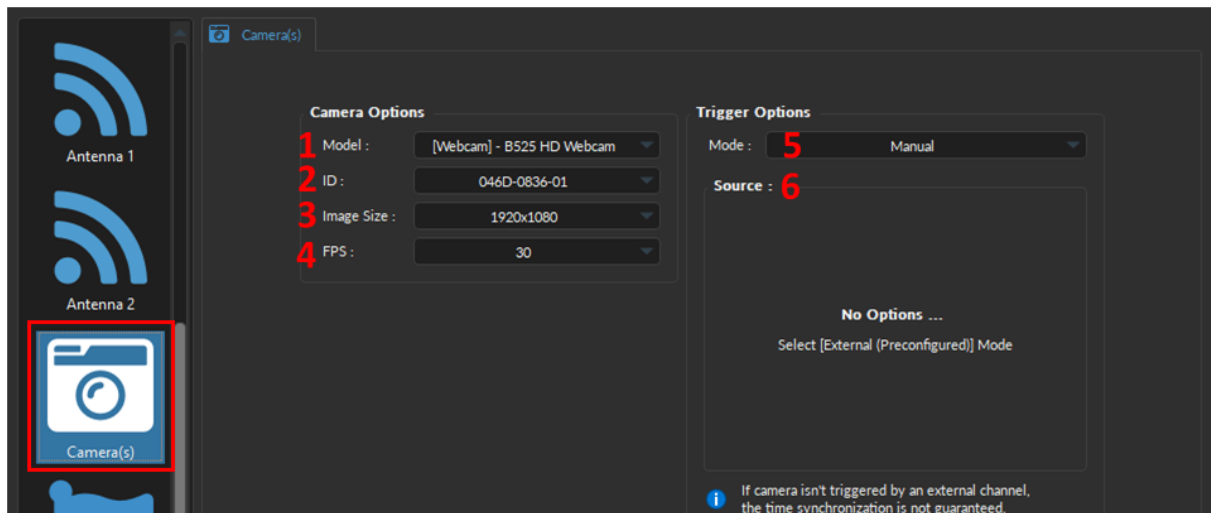
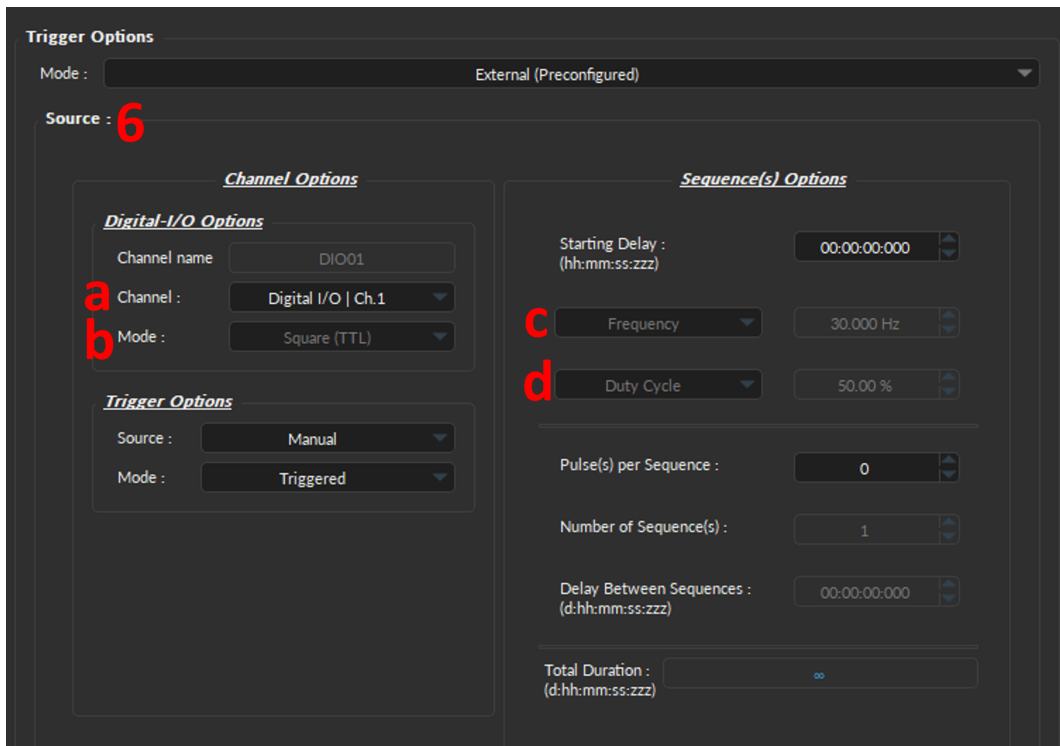

Figure 9.43: Channel(s) configuration window, Camera
Figure 9.45: Channel(s) configuration window, Camera - External (Preconfigured)
1. The **Model** (Fig. 9.43, 1) allows you to select the camera of choice based on the type of camera.
2. **ID** drop-down list (Fig. 9.43, 2) is used to select a camera based on its unique ID. The ID is particularly useful if multiple cameras of the same model are required for the experiment.
3. The **Image Size** (Fig. 9.43, 3) is used to set the resolution of the image. The large the number of pixels used for width x height, the better the resolution. Currently, image size can ranges between 160x120 to 1920x1080 pixels.
4. The **FPS** (Fig. 9.43, 4) is used to specify the frame rate of the camera (i.e. the number of images displayed per second). FPS can be any value between from 5-30 for web cameras and up to 60 FPS for the *Doric Behavior Camera*.
5. The **Mode** (Fig. 9.43, 5) sets the type of trigger that will control the camera. Depending on the type of camera, at most three modes are available:
6. The **Source** (Fig. 9.43, 6 & Fig. 9.45) is only used for the **External (Preconfigured)** mode, and displays the **Digital I/O** channel with the preconfigured parameters that will be created at the same time as the **Camera Channel** (Fig. 9.45). For detailed description of each Digital I/O parameter see the corresponding section in the Fiber Photometry System Manual. Briefly, key parameters include:
- a) The **Channel** (Fig. 9.45, a) corresponds to the physical Digital I/O channel number on the Console that is connected to the trigger cable of the *Doric Behavior Camera*.
- b) The **Mode** (Fig. 9.45, b) is by default set to the *Square (TTL)* which provides the external trigger signal to the camera. This parameter cannot be changed.
- c) The **Frequency** (Fig. 9.45, c) corresponds to the **FPS** set in the **Camera Options**. Changing the **FPS** will automatically change the **Frequency** in the **Sequence(s) Options**.
- d) The **Duty Cycle** (Fig. 9.45, d) is by default 50%. The frame will be taken at the start of each square pulse.